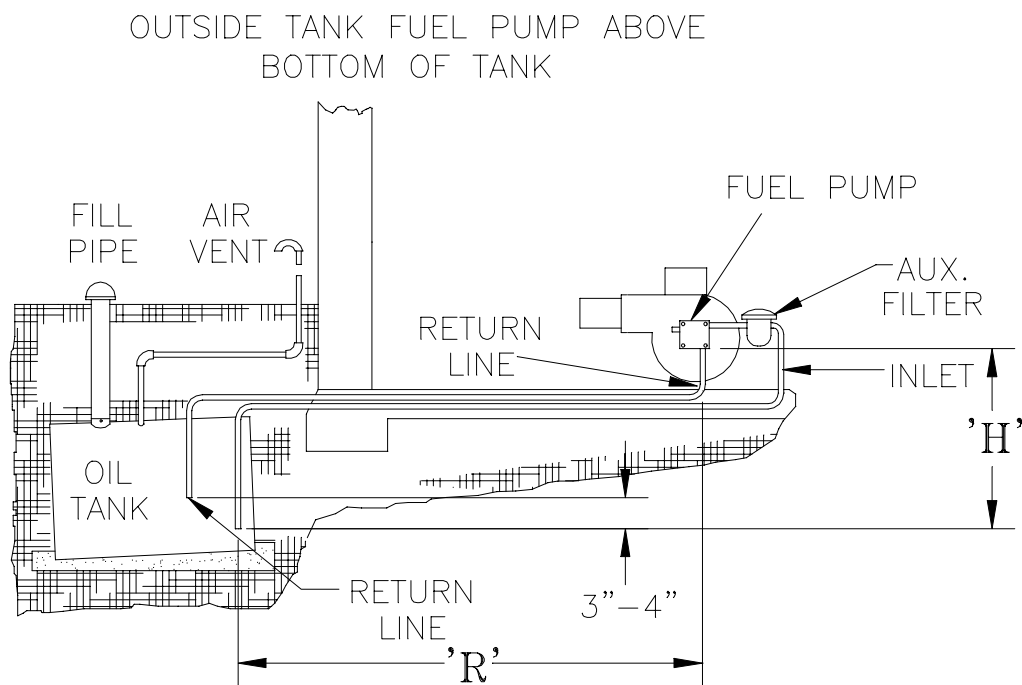

Figure 22: Two-Pipe Installation
1. For two-piped systems, where more lift is required, the two-stage fuel unit is recommended. Table 2 (single-stage) and Table 3 (two-stage) show allowable lift and lengths of 3/8 inch and 1/2 inch OD tubing for both suction and return lines. Refer to Figure 22.